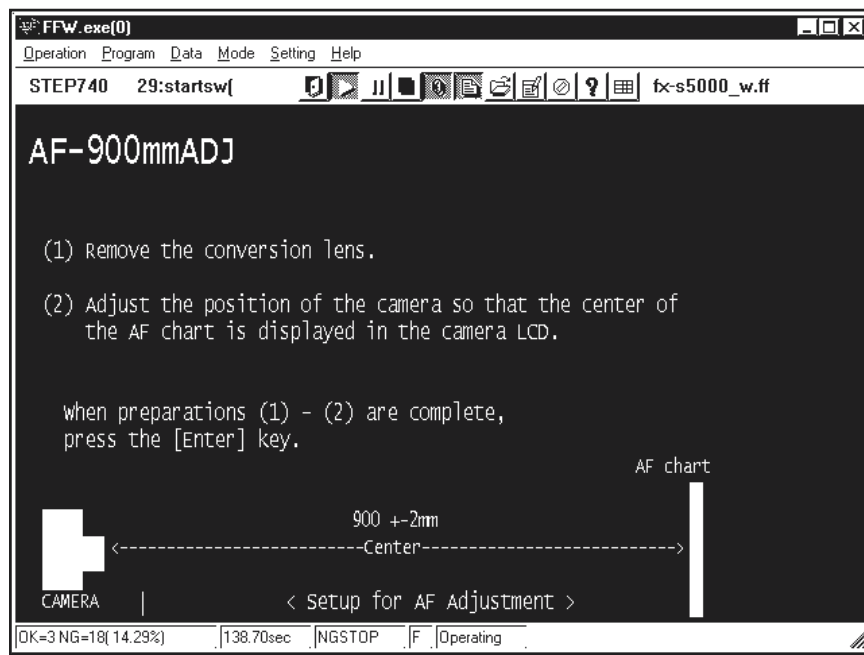

Fig.21
--->The [AF 900mm Adjustment Start screen(Fig21)] appears.